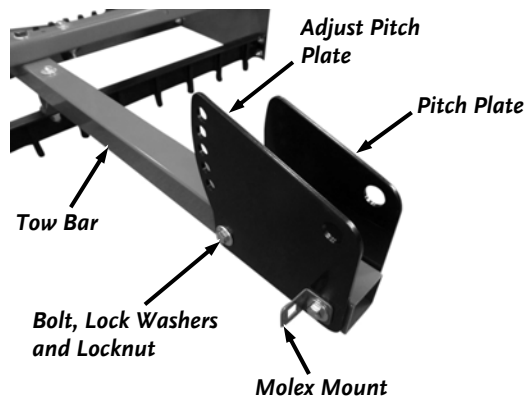

Figure 10
15. Position the Pitch Plate (left side) and Adjust Pitch Plate (right side) (**Figure 10**) and install a 3/8-16 X 3" Bolt, 3/8" Washer (Bolt side), 3/8" Washer (Locknut side) and 3/8" Locknut at the rear using two 9/16" Wrenches.
- Note:** Ensure the Molex Mount is oriented as shown in Figure 10.